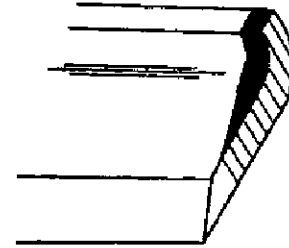

FIG. 6
- B. Ordinarily the blade can be balanced by grinding just the cutting edge of the heavier end. However, if the blade is badly out of balance, the blade should be balanced by grinding in the area shown in FIG. 6.